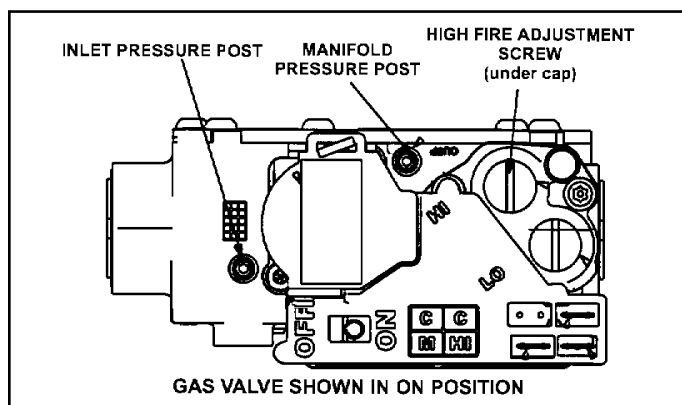

Figure 61. Gas Valve Shown in ON Position
6. Move gas valve switch to OFF. See Figure 61.
8. Move gas valve switch to ON. See Figure 61.
- A manifold post located on the gas valve provides access to the manifold pressure. See Figure 61. Back out the 3/32 Hex screw one turn, connect a piece of 5/16" tubing and connect to a manometer to measure manifold pressure.